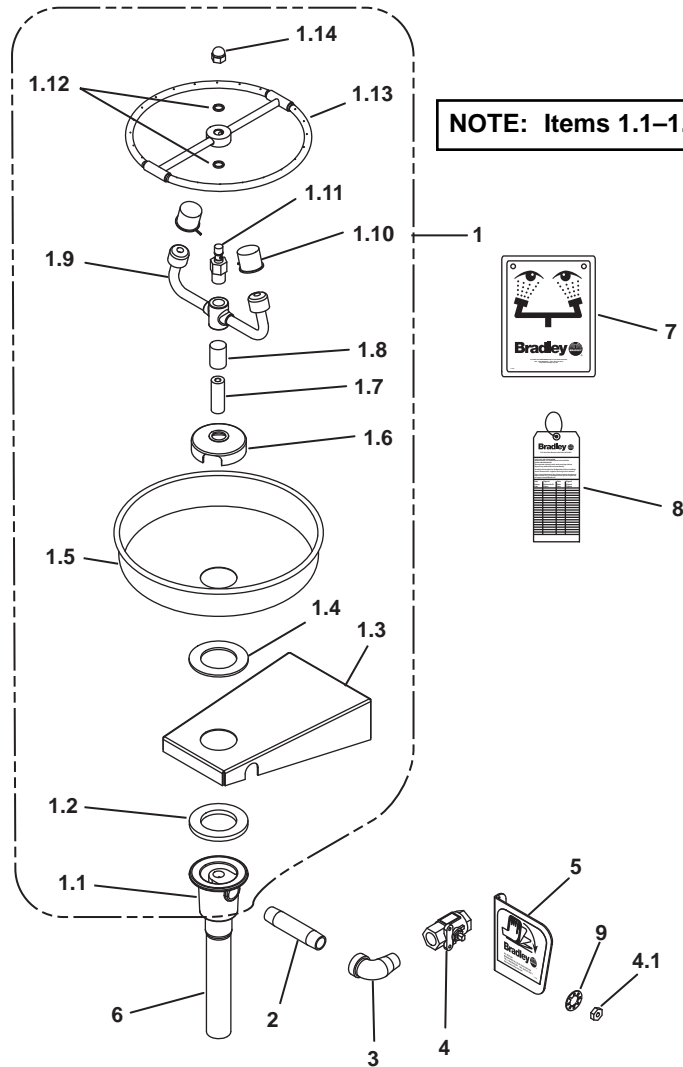

Figure 2
1. Assemble the remaining components as shown in Figure 2 on page 4.